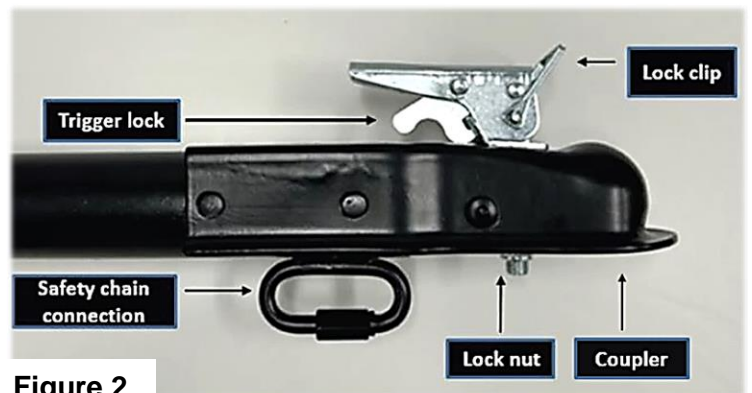

Figure 2
2. Try to remove the ball from the socket by pulling up on the ball tow bar. **Figure 1.** The ball should fit tight within the coupler socket and rotate without any vertical movement. If the ball moves vertically within the coupler socket, the clamp requires adjustment. Reference **Figure 2.**
2. Locate the lock nut on the underside of the coupler. Tighten the nut until the clamp is tight against the ball with (slight interference). Back off the lock nut by one-half turn, enough to allow the latch to close with resistance. Reference **Figure 2.**